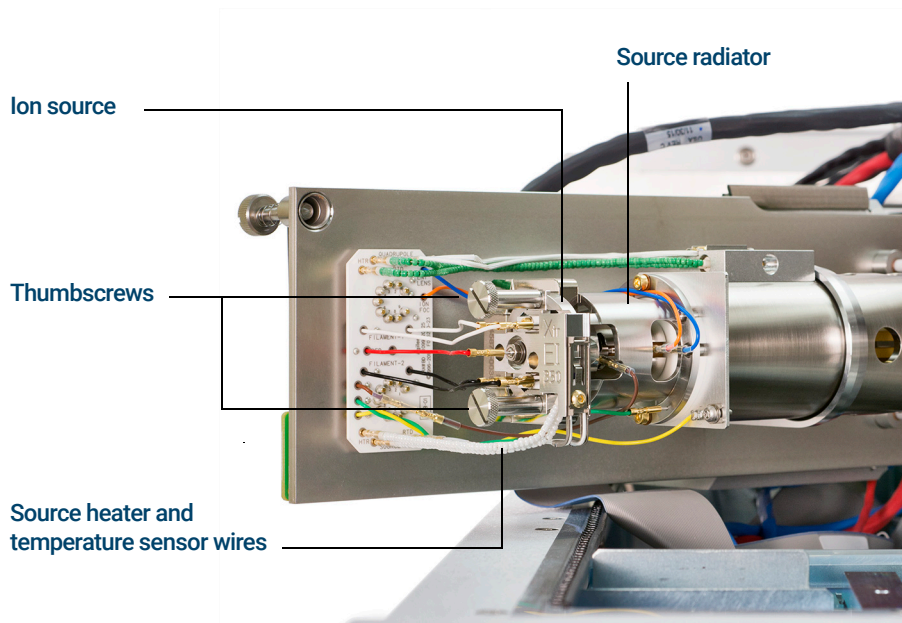

Figure 63. Installing the EI XTR or HydroInert source on a 7000E Series MS
- 3 Slide the ion source into the source radiator. (See Figure 63 on page 198.)
- 4 Install and hand-tighten the source thumbscrews. Do not overtighten the thumbscrews. (See Figure 63 on page 198.)